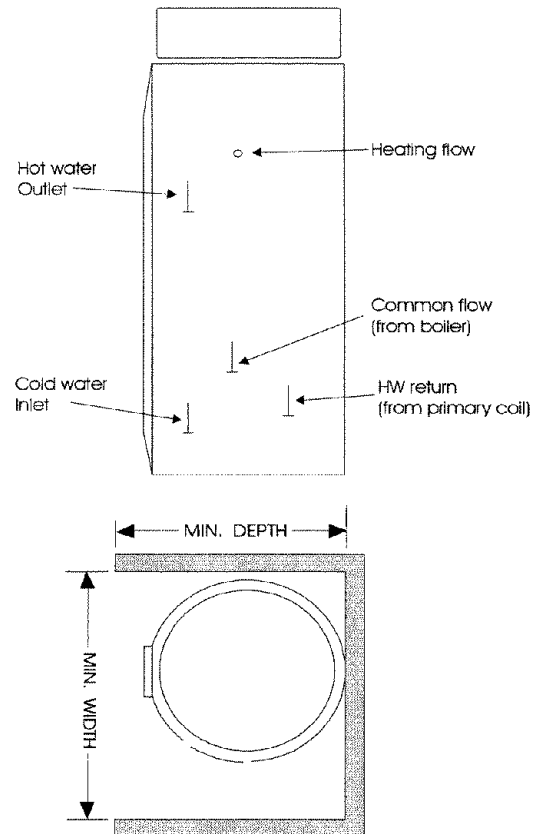

Figure 3.1 SysteMate III Connection arrangement (For minimum cupboard dimensions see Table 1.1)
- Make all water connections in accordance with the labelling on the thermal store and the associated pipework as shown in Figure 3.1.